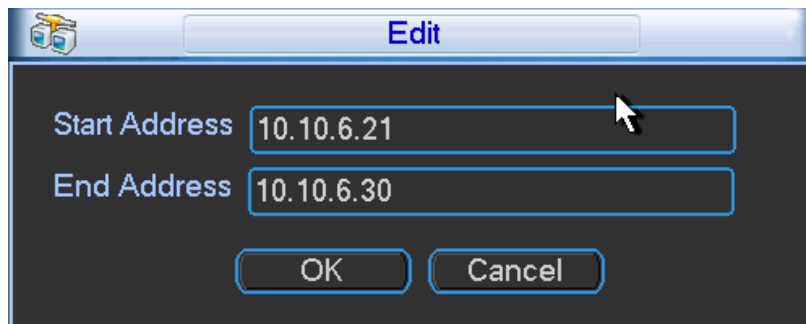

Figure 5-18
- Edit: Click it to edit start address and end address. See Figure 5-18. System can check the IP address validity after the edit operation and implement IPv6 optimization.